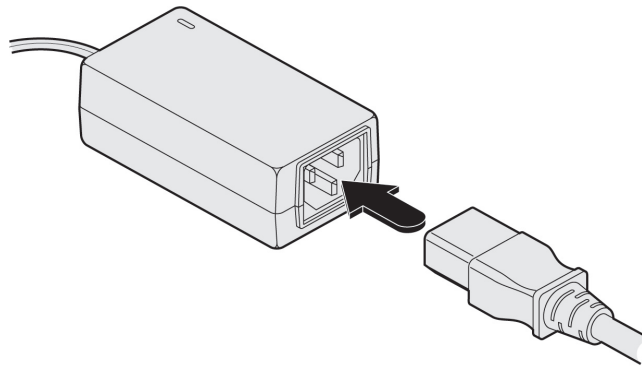

Figure 3-12. Connecting the power lead to the power adapter's connector.
2. Connect the IEC connector of the supplied country-specific power lead to the power adapter's connector. See Figure 3-12.